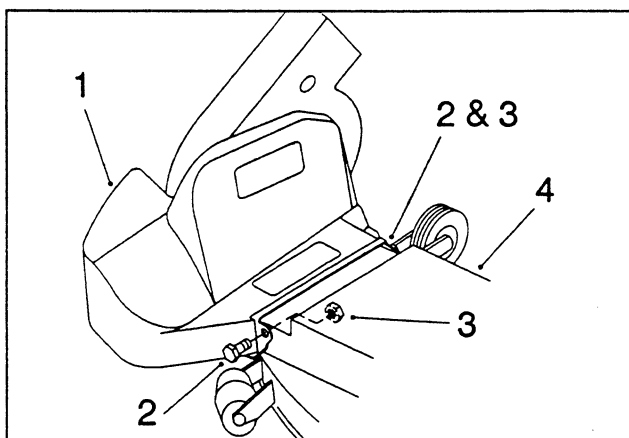

Figure 8
3. Install the **blower belt cover** using two $\frac{1}{4}$ " x $\frac{5}{8}$ " hex-head bolts and $\frac{1}{4}$ " nylon lock nuts (Fig. 8). Tighten the nuts until you feel a slight drag on the cover when you rotate it. The cover must close freely.